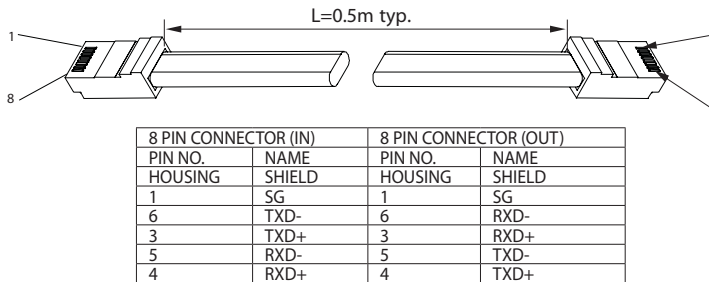

Fig.7-8: Serial link cable with RJ-45 shielded connectors (P/N: Z/RJ45)
- 3. Using the Linking cable supplied with each unit (Refer to Fig.7-8), connect each unit OUT connector to the next unit IN connector.